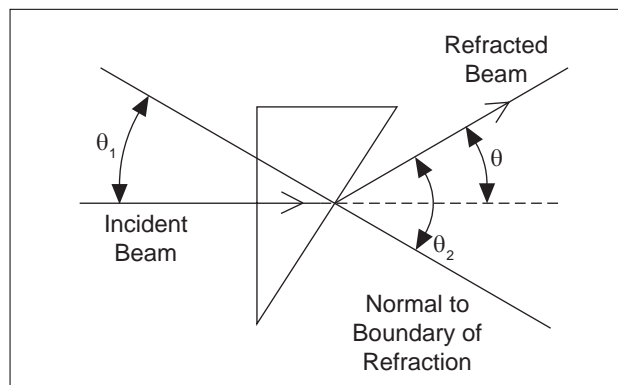

Figure 4.3 Geometry of Prism Refraction
- ④ Using the diagram shown in Figure 4.3, determine  $\theta_1$  and use your value of  $\theta$  to determine  $\theta_2$ . (You will need to use a protractor to measure the Prism angles.)
- ① In the diagram of Figure 4.3, the assumption is made that the wave is unrefracted when it strikes the first side of the prism (at an angle of incidence of  $0^\circ$ ). Is this a valid assumption?
- ② Using this apparatus, how might you verify that the index of refraction for air is equal to one.
- ③ Would you expect the refraction index of the styrene pellets in the prism mold to be the same as for a solid styrene prism?